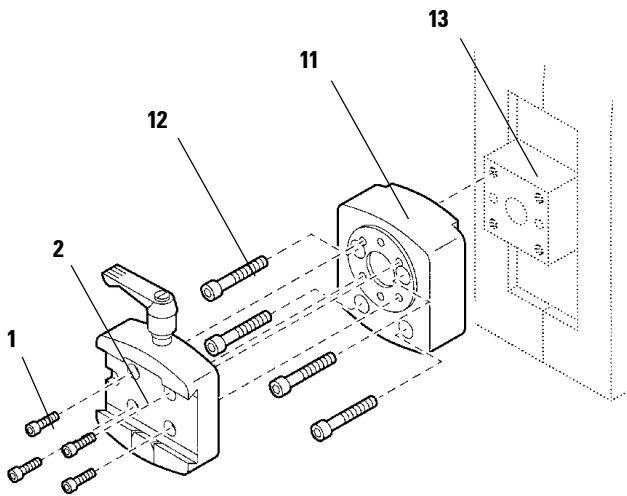

Fig. 21.1
7.3.1 Non-orienting specimen clamping system (Fig. 21.1)
- Place the non-orienting specimen clamping system (11) on the specimen arm (13) as shown and fix with the 4 screws (12) by using an Allen key size 4.
- Place the dovetail adapter (2) on the specimen clamping system (11) and fix it by tightening the 4 screws (1) with an Allen key size 3.